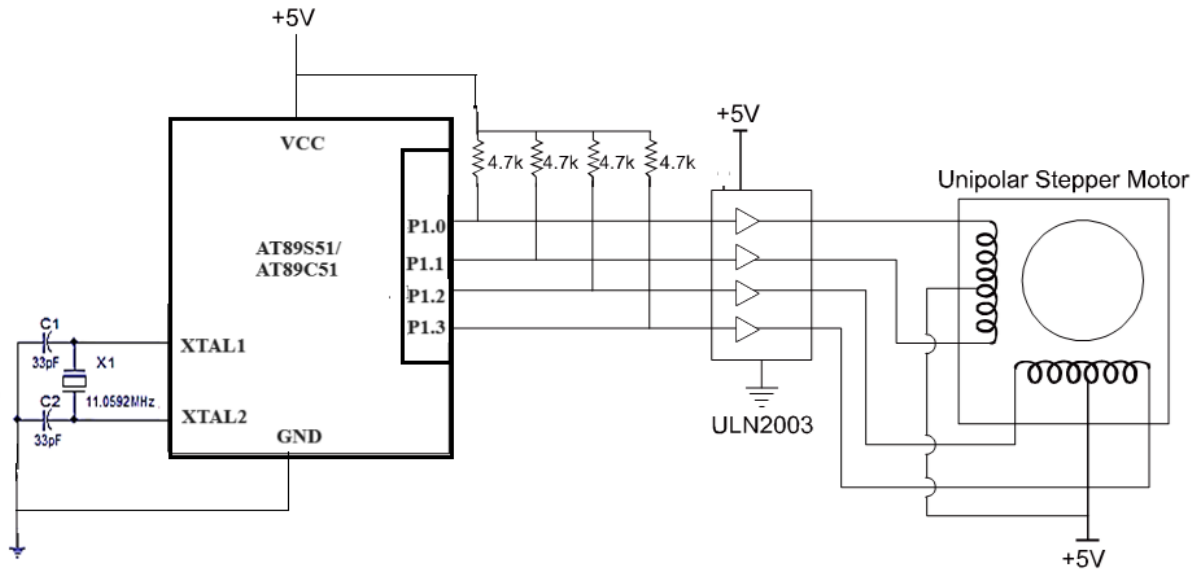

Fig 26.3 8051 connection to stepper motor
8. Interface stepper motor to microcontroller as per circuit diagram shown in fig 26.3